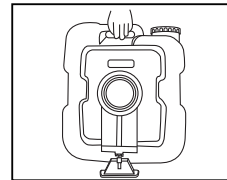

Figure 5
- ❖ Both tanks are one-piece construction, no seams (figure 5)